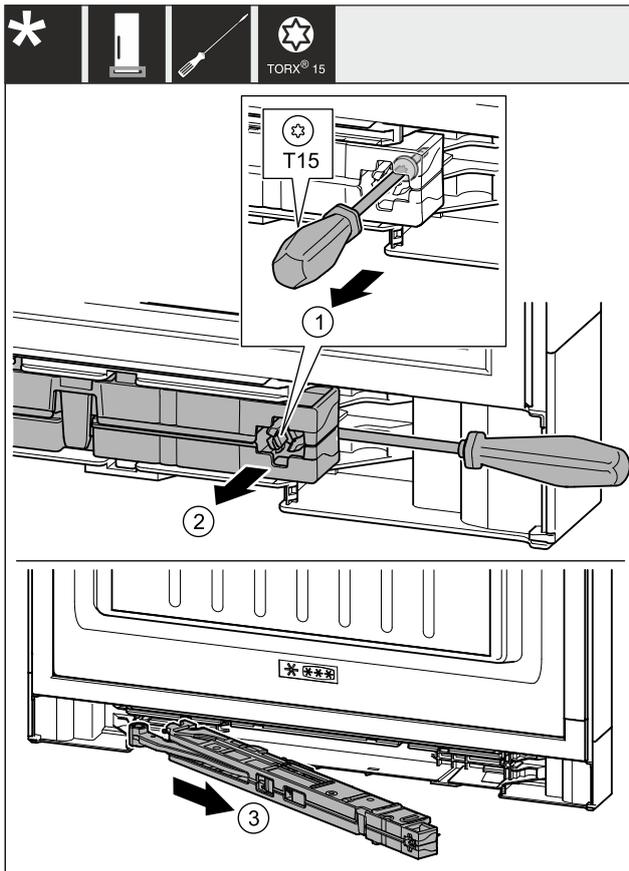

Fig. 7
- ▶ Use screwdriver T15 to loosen the screw on the closing damper unit by approx. 14 mm. *Fig. 7 (1)*
- ▶ Push the screwdriver in behind the closing damper unit on the handle side. Swivel the unit to the front. *Fig. 7 (2)*
- ▶ Pull the unit out. *Fig. 7 (3)*